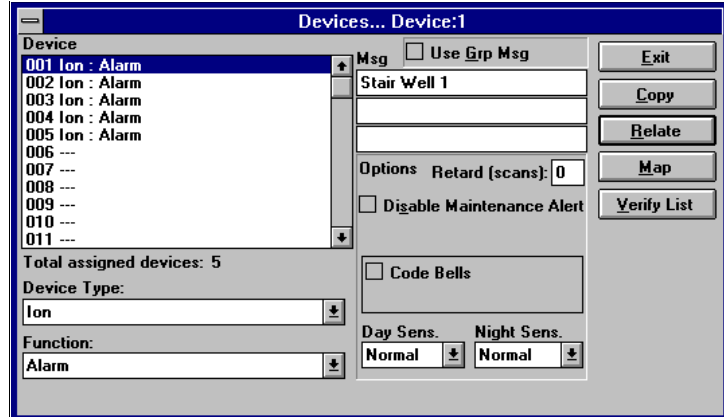

Figure 21: Devices Window
- **Copy:** Copies the circuit/device information, relates and message from another input to the current input (see Figure 21). The current input does not have to be defined. Relates cannot be copied between conventional and addressable input points. The *Panel ID*, *Circuit ID* and *Device ID* (not always shown) list the circuit/device to be copied from. Marking *Transfer Main Definition* copies the listed circuit/device type and function to the current circuit/device. **Note:** Not all inputs can be copied to all other possible inputs. Marking *Transfer Relates* copies the relates from the listed circuit/device relates to the current one. This may cause some invalid relates. Marking *Transfer Message* causes the message to be copied. Marking *Transfer Devices* (if shown) copies any device definitions that the listed circuit contains. These devices copy messages and relates as based on those settings above. There is no checking made at this time as to the validity of the values copied. **Unexpected results can occur if care is not taken.** For each database that is created, a warning about using copy is shown. Marking the check box in the warning stops the box from appearing again for the database. This option can help speed up the creation of a database. By completely defining one input, these values can be copied to all other inputs, making any minor changes that are required after the copy.
- **Copy Relates:** Copies the relates from another input to the current internal circuit (see Figure 21). The values of the panel and circuit are required. Press Copy to copy the information. If the function type of the two circuits is different, a requester is presented to confirm the copy.